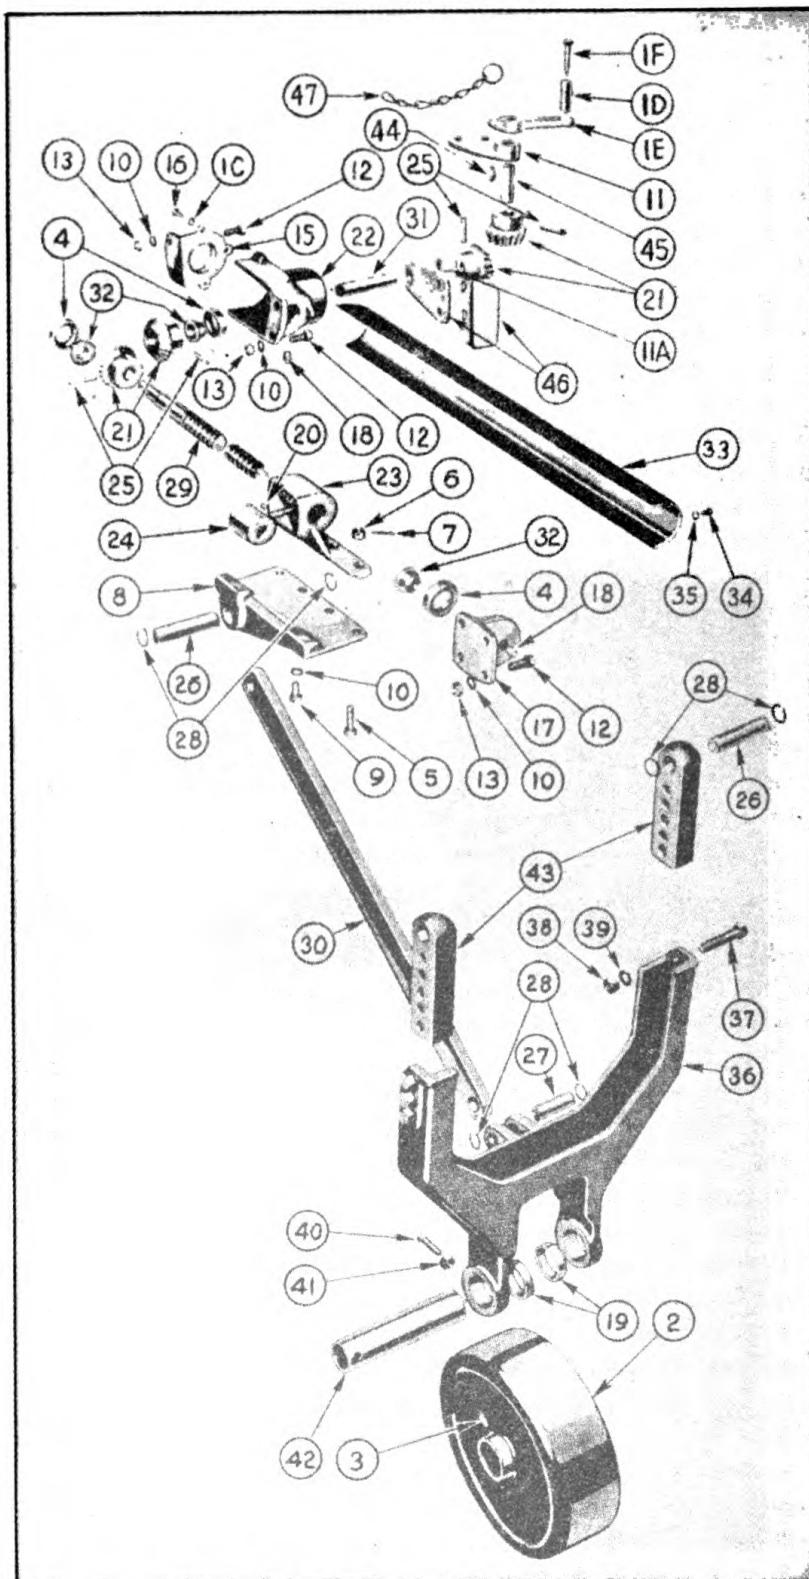

FIGURE 60. CONVERTER GEAR SUPPORT—EXPLODED
2. **REMOVING SUPPORT LEGS** (Figure 60).—Remove the pin in connecting rod (30) at the support leg (36). Remove pins at the frame support bracket (26). This will permit removal of the support leg. Severely bent support legs should be replaced. When slightly bent, heat and straighten.
3. **REMOVING SUPPORT WHEEL AND AXLE.**—*a.* The support wheel (2) can be easily removed by removing the two bolts holding the axle (42) to support leg (36). Damaged wheels should be replaced.
*b.* Remove the axle (42) as you remove the wheel.
4. **REPLACING ADJUSTING BAR.**—The adjusting bars (43) are held to the leg by three bolts and a 1" pin (26) in frame support bracket. Remove these and drive the adjusting bar down and out. Replace
- f.* Remove the two bolts (Figure 60) holding bracket (46) and operating assembly (11 and 45) to frame.
- g.* Drive out pin (25) from shaft (31).
- h.* Loosen the two bolts in bracket (46) and pull complete assembly off I-beam.
- i.* Remove the three cap screws (16) from bearing cap (15) and pull riser screw (29) out of gear housing (22).
6. REASSEMBLY.—*a.* When re-assembling, reverse the above procedure. Be sure that the nut dowel (20) is in the dowel pin hole in the gear housing and the brass riser screw nut (24) is over the dowel pin.